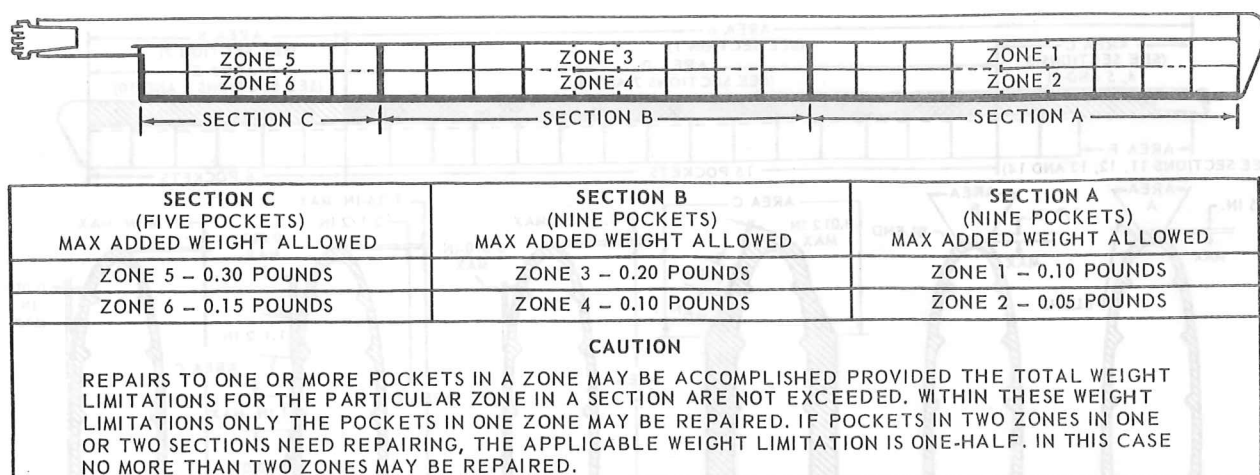
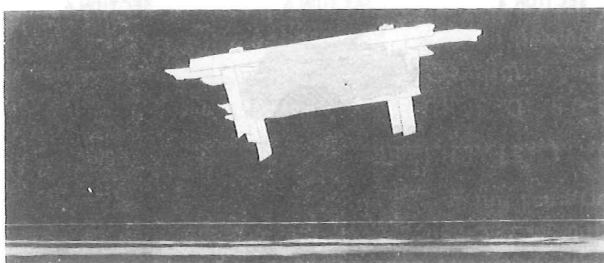

Figure 2-2. Limitations of Resin Filler Repairs to Main Rotor Blade Pockets
Figure 2-3. Resin Filler in Damaged Pocket
b. Repair of holes greater than 1 inch in diameter in the main rotor blade pockets may be made by patching with bonded aluminum or fabric, or by filling with resin filler. These repair materials to be used are restricted to specific additional weight limitations allowed to be applied to particular sections and zones of the blade as shown in figure 2-2. Small symmetrical holes in the blade pockets, 1 inch or less in diameter, may
c. A bonded aluminum or fabric patch should be used to repair punctured pockets where the hole is nearly symmetrical in shape and the patch size does not exceed 3 x 3 inches. Resin filler should be used to repair irregularly shaped holes (figures 2-3 and 2-4), or where the patch size required after trimming the hole will exceed 3 x 3 inches. Replacement of the blade is required if the weight of the resin required to fill a hole exceeds the weight limitations in figure 2-2.
e. See figure 2-2 for specific additional weight limitations allowed as a result of patches applied to damaged pockets.
g. A hole in the root pocket (twenty-third from the tip) closer than 1/2 inch from the edge of the root cap may be repaired with a resin filler, provided the weight limitations shown in figure 2-2 are complied with. Replacement of the blade is required if resin required to fill the hole exceeds weight limitations.
a. See figure 2-2 for sections, zones, and additional weight limitations applied to repair of blade pockets. Replace blade if weight of resin required to fill hole exceeds weight limitations in figure 2-2.
d. Use masking tape and mask trimmed area approximately 4 to 6 inches from trimmed edge on all sides in preparation for cleaning and filling damaged area. (See figure 2-3.)
f. Mix resin filler according to instructions on Unipak container in quantity not to exceed weight limitations for particular section and zone of the blade shown in figure 2-2. Pour liquid resin into clean, preweighed glass container and add up to 50 percent by weight of grated cork or vermiculite and stir well.